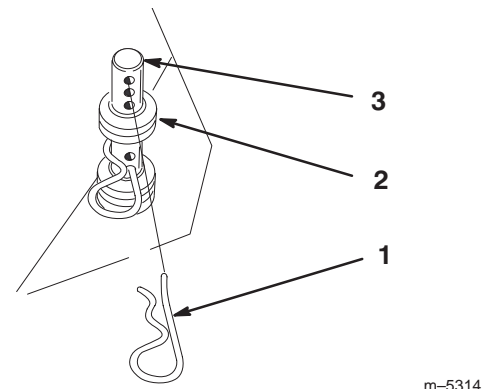

Figure 10
1. On opposite side of muffler, install extra hairpin cotter pins into front and rear height-of-cut pins (Fig. 10).